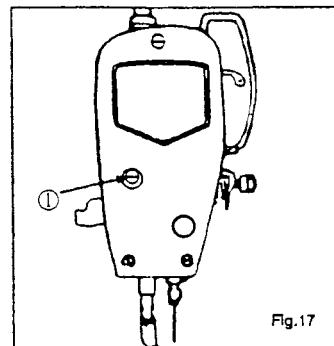

Fig.17
15. To adjust presser bar height (Fig. 17)